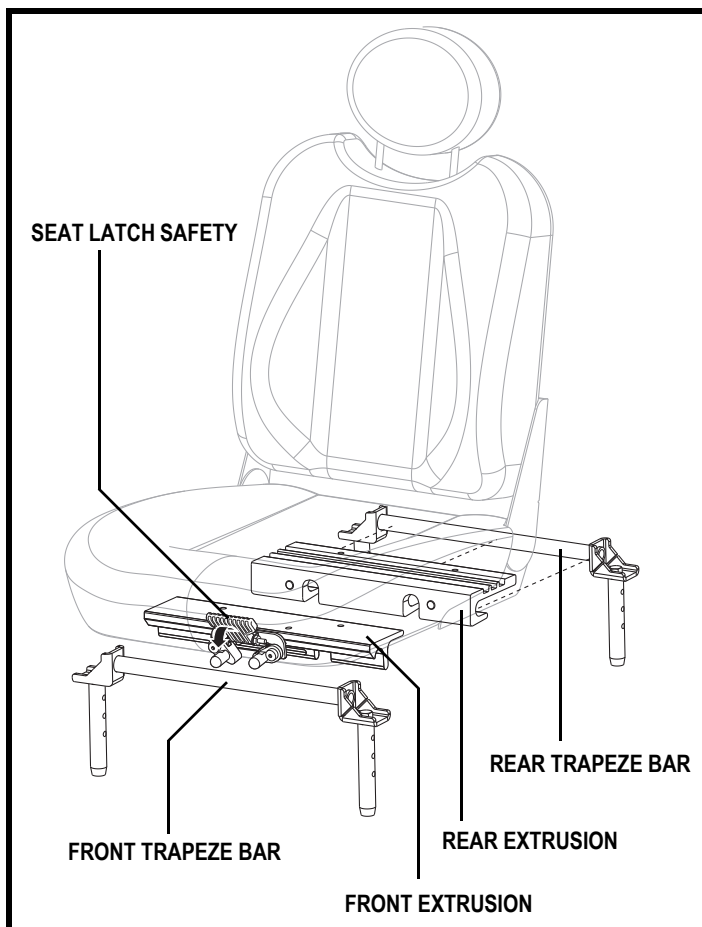

Figure 12. Universal Mounting System
2. Tilt the seat back and slide the rear extrusion onto the rear trapeze bar. **See figure 12 and 12a.**
4. Flip the seat latch safety down. **See figure 12.**